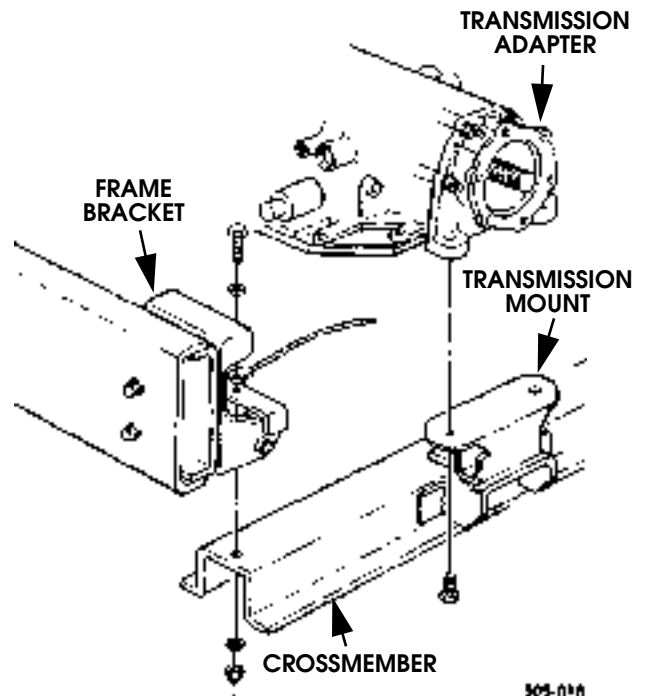

Figure 5-51: Transmission Rear Mounting
19. Remove bolts attaching transmission mount to transmission adapter (Figure 5-51). Then remove bolts attaching crossmember to frame brackets and remove crossmember.